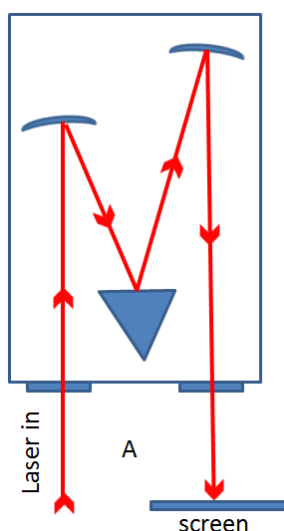

Figure 28. Diagram of grating position.
2. This step is to setup the grating position that will allow final adjustment of the folding mirror after it is installed. Plug in the monochromator 24VDC supply and connect the USB to the computer. Start SciSpec (or SciUSBMono) and let the instrument initialize. After, unplug the 24VDC. Run a flat, straight HeNe or other laser directly into the front input port with a narrow-slit width. The beam should hit the centre of the first mirror at the proper optical height of 3". With a screen at the output port, and a slit width about the size of the laser beam, rotate by hand the motor shaft until the beam exits the exit slit and falls on the screen. Mark the position on the screen. This is the grating position for the last step. See Figure 28. Diagram of grating position below: